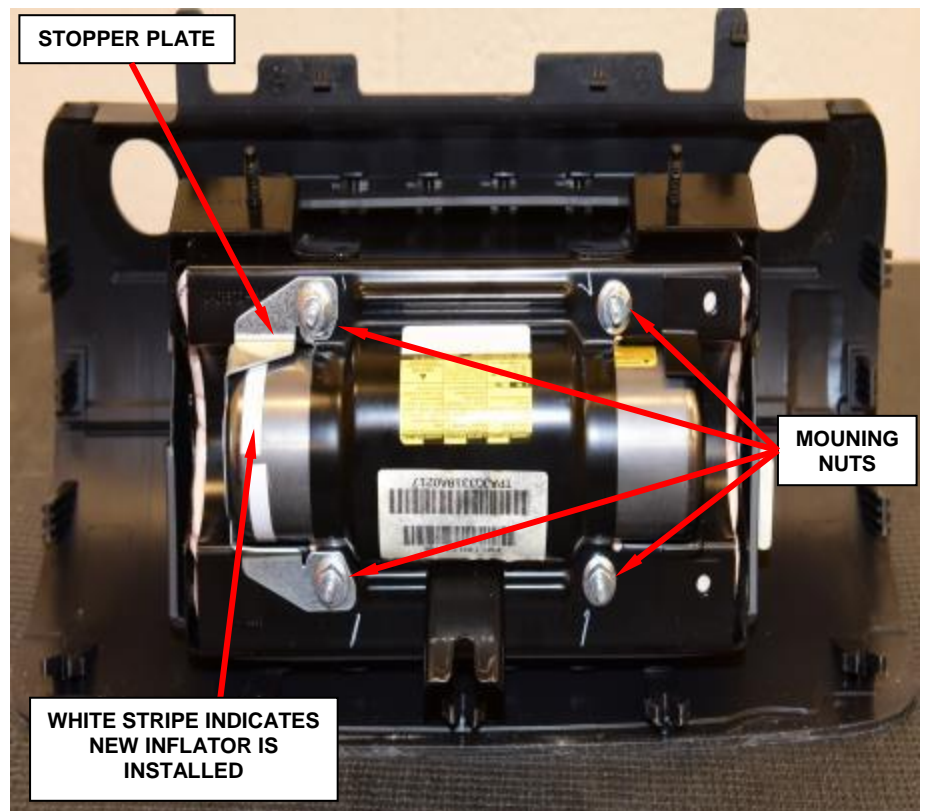

Figure 91 – Retrofit Complete
- f. Install the stopper plate to the airbag module (Figure 91).
- g. Install the four new mounting nuts to the airbag module and tighten to 62 in. lbs. (7 N·m) (Figure 91).
- h. Passenger airbag retrofit is complete (Figure 91).